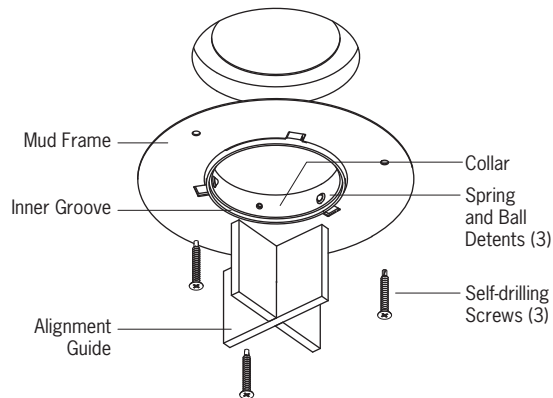

FIGURE 2
- Install hanger bars to NCF1 mounting frame; ensure end tab is facing outward. (Figure 2)